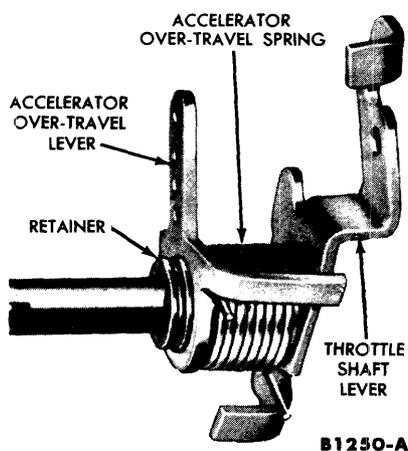

FIG. 15—Accelerator Over-Travel Spring & Lever Installation
1. If the throttle plates were removed, place the accelerator over-travel spring, with the shortest tang end first, over the boss on the over-travel lever. Place the short tang of the spring under the lug on the lever. Slide the over-travel lever and spring assembly on the throttle shaft. Hook the longest tang of the spring over the closed throttle lug of the throttle lever (Fig. 15). Install the over-travel lever retainer. Slide the primary throttle shaft assembly into the main body.